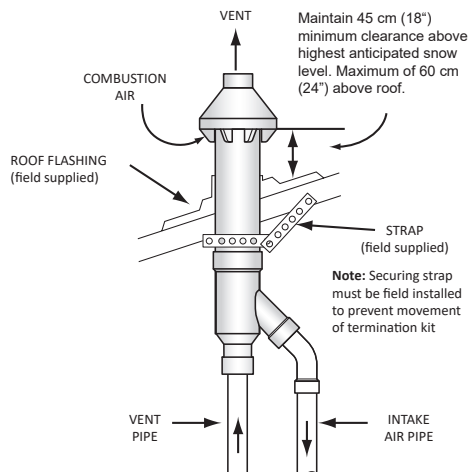

Figure 32. Pitched Roof Concentric Termination Snow Clearances
5. Secure assembly to roof structure as shown in **Figure 32** using field-supplied metal strapping or equivalent support material.
Note: Ensure termination height is above the roof surface or anticipated snow level as shown in **Figure 32**.
7. Cement water heater combustion air intake and vent pipes to concentric vent termination assembly. See **Figure 32** for proper pipe attachment.